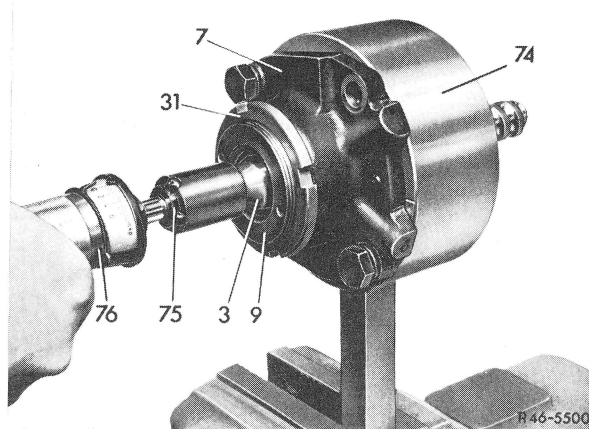

Fig. 8
8 Friction torque can also be measured with torque wrench (76) in combination with insert (75) (Fig. 8).